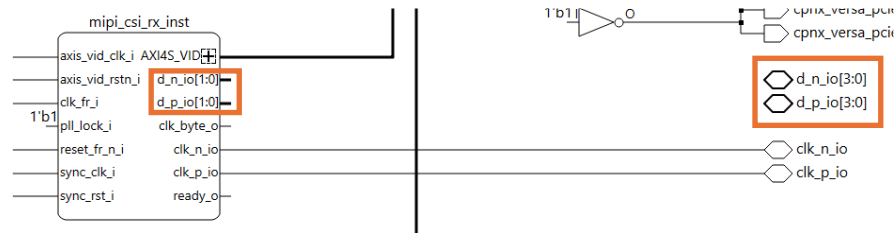

Figure 7.3. Disconnected MIPI CSI RX Data Lane Ports
5. The bit width of the mipi_csi_rx_inst d_n_io and d_p_io ports is changed to [1:0]. As a result, the existing connections in the Lattice Propel Builder are disconnected as shown in Figure 7.3.